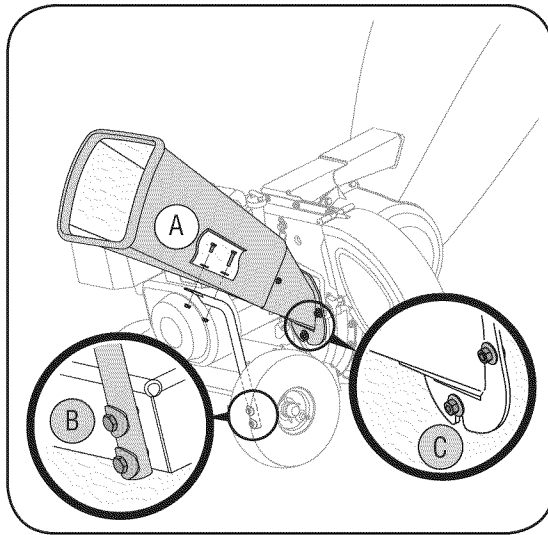

Figure 3-7
7. The chipper shredder was shipped with one end of the support brace already secured to the lower frame. Loosen but do not remove the bolts securing the brace to the frame. See Figure 3-7.